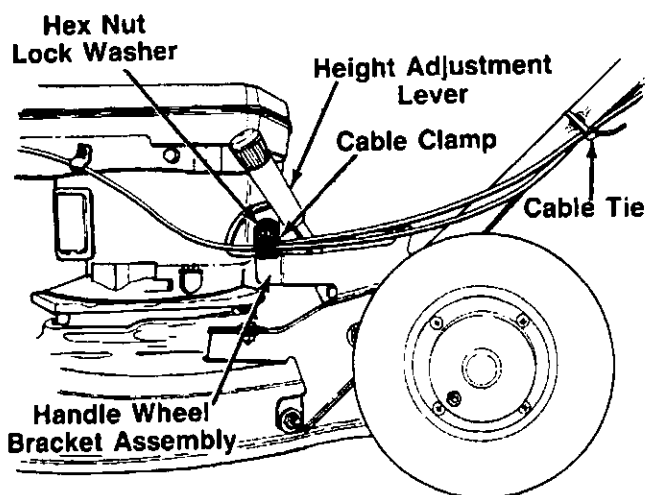

FIGURE 9.
2. Remove the top hex nut and lock washer on the side of the left handle wheel bracket assembly. Attach the cable clamp as shown in figure 9. Secure with lock washer and hex nut.